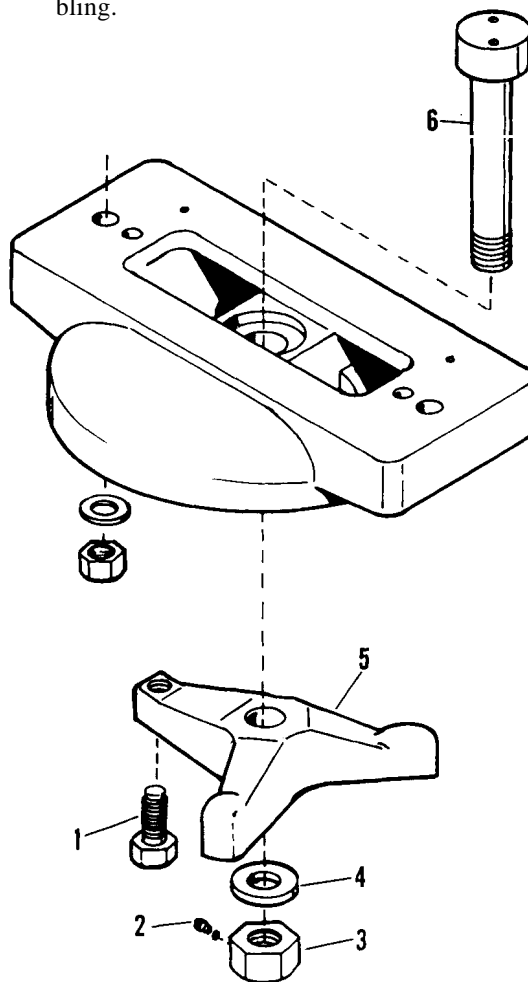

Figure 25. Removing Turret
55. REMOVING TURRET (figure 25)
1. Loosen the spider clamp screw (1). This screw and the following parts can be reached through the access hole in the rear of column.
2. Loosen the setscrew (2) and remove the large hex nut (3) and washer (4). The spider clamp (5) will drop, and the turret can then be lifted off of column with a sling.
56. ADJUSTING SPIDER CLAMP FOR TURRET (figure 25)